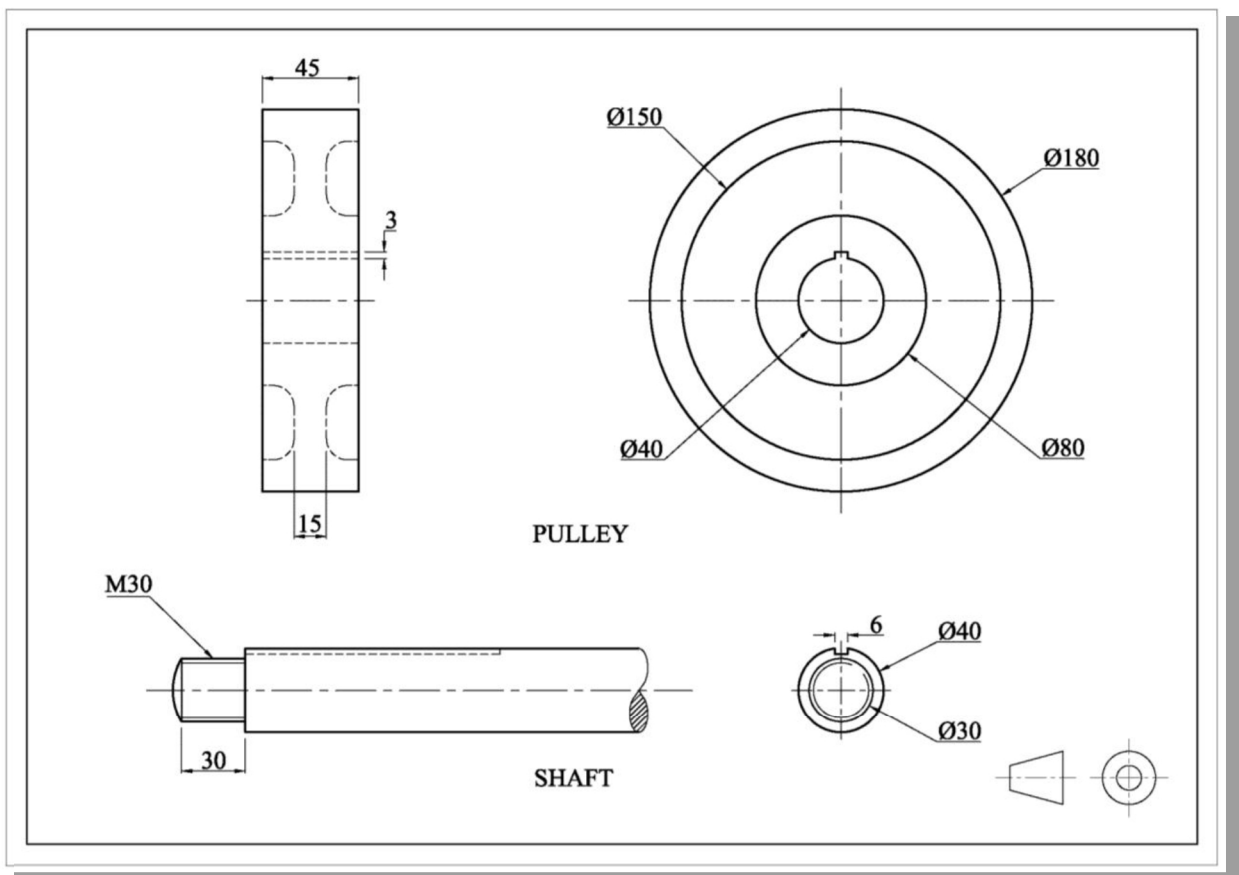

FIG. 7b
Orthographic views of a shaft with a keyway and a pulley with a key slot in the hub are shown in Figure 7b. A parallel key is to be attached to one member between the shaft and the hub of the pulley to transmit motion and to permit axial movement.
- Details and dimensions of the key are not shown in Figure 7b.